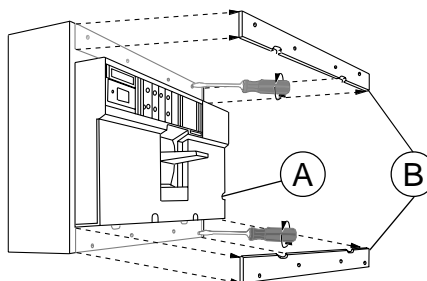

**Figure 14: Tie Rope Ends**
4. Tie rope end 1 and end 2 together as shown. Rope must be taut. Cut off excess rope and tape ends (A, Fig. 14) to prevent fraying.